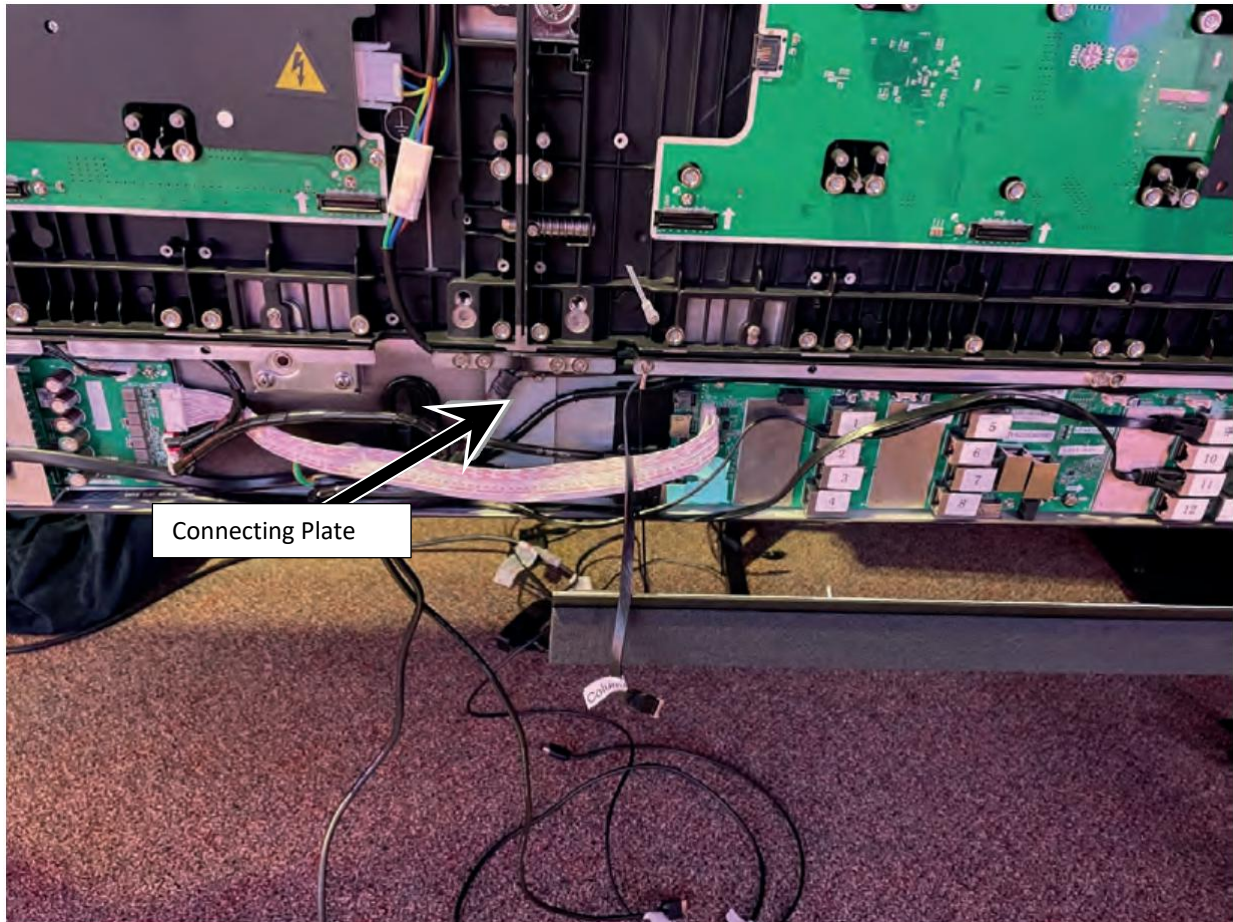

Figure 15
2. Mount the Lower Frame Sound Bar in place beneath the lowest row of panels as shown. The Sound Bar locks in place using rotary hook locks. See Figure 15 for proper mounting example.
3. Mount the Lower Frame Sound Bar in place beneath the lowest row of panels as shown. The Sound Bar locks in place using rotary hook locks. See Figure 15 for proper mounting example.